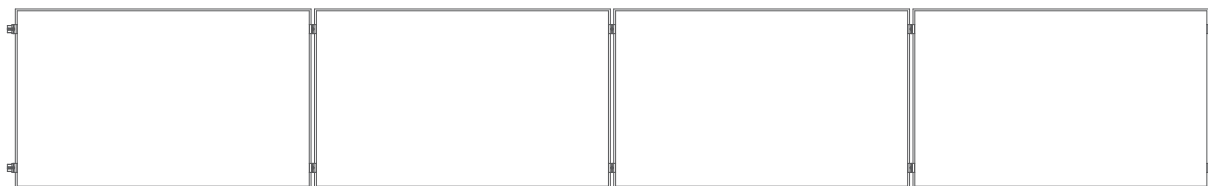
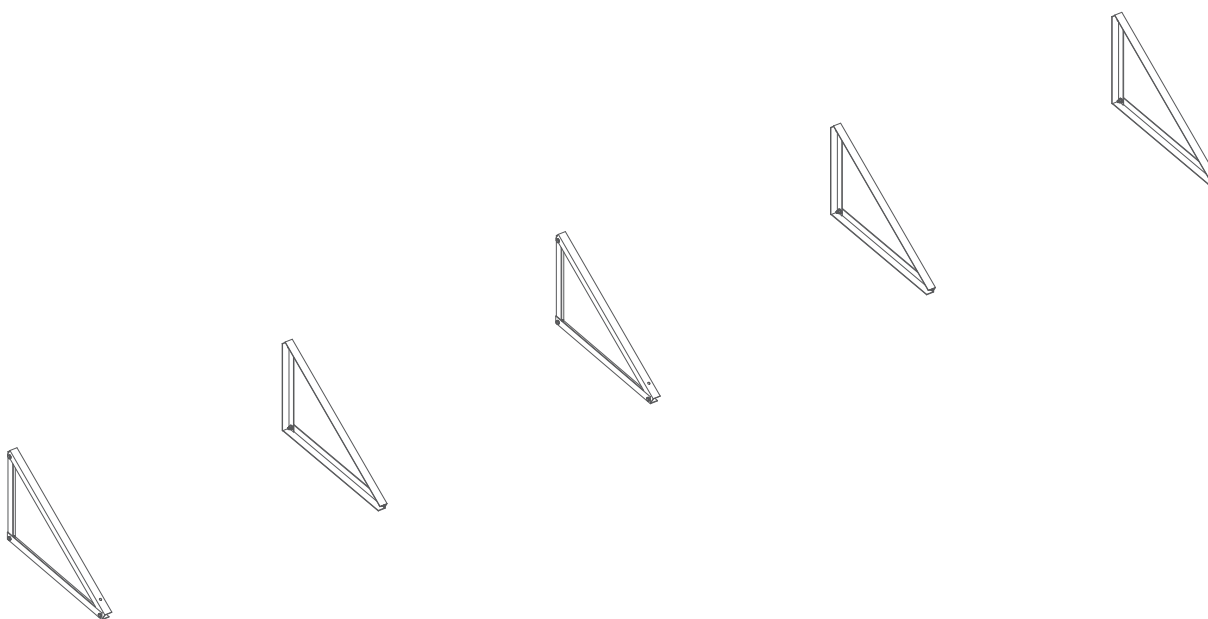

Fig. 1. plan for the arrangement of the modules
Fig. 2. arrangement of the mounting triangles
- 1 Before you start mounting, you should determine the plan for the arrangement of the modules (Fig. 1) and the mounting triangulates (Fig. 2). The way of fixing the mounting structure to the roof depends on its type and is selected individually.